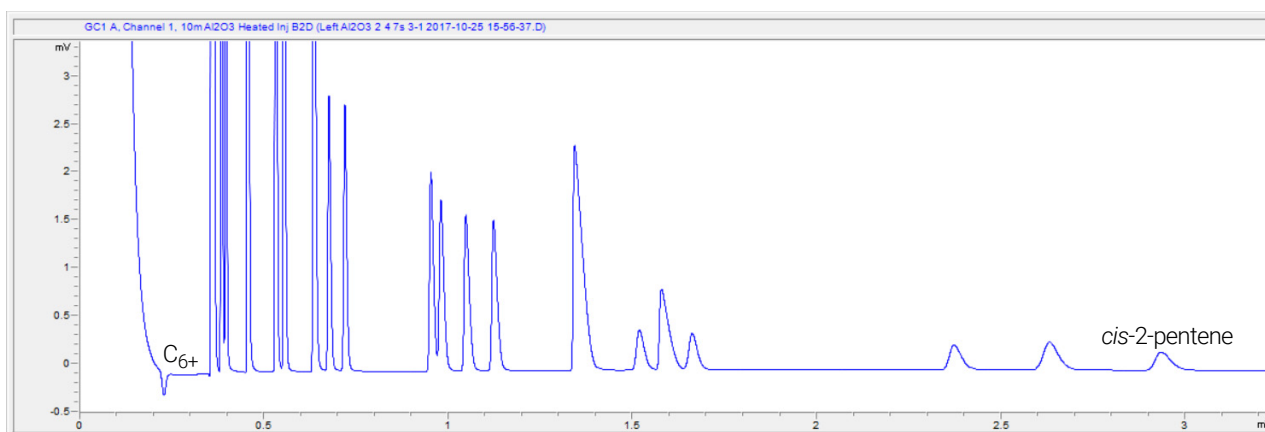

Figure 33. 10m Al₂O₃ Column for refinery gas analysis
- 1 Set backflush (BF) time to 0 seconds. Run method to obtain the peaks of all eluted components. Record the retention time (RT) of *cis*-2-pentene and *n*-hexane.
- 4 Finely tune the BF time, find the data point when the *n*-hexane peak is observed. Decrease BF time by 0.1 seconds steps, and start a run until the peak disappears (peak height < 3 μV). Set BF time for this channel to that value minus 0.4 seconds. A typical “clean cut” time range of 10m Al₂O₃ BF2D channel is approximately 1-2 seconds. (See Figure 33.)